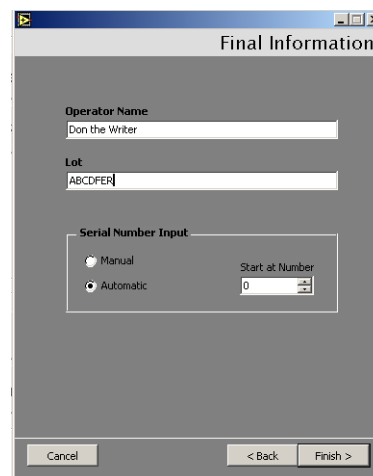

Figure 2-35 Final Information
16. Click **Next** and Figure 2-35 appears.